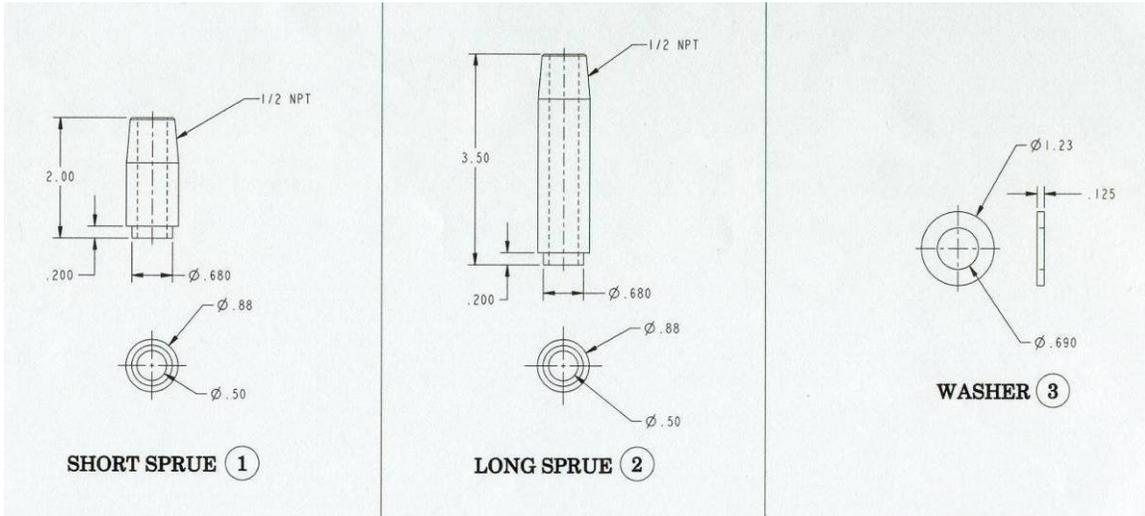

Figure 54- Sprue washers and extensions
6.49.4 Mount the G-11 sprue washers to the chill plates in the areas that were pre-cut to accommodate the epoxy feed sprues. Secure in place using **3M adhesive cement #CA40H**. Pre-apply by brushing, **3M Accelerator “Pronto Surface Activator”** to the chill plate that will mate with the washer. Apply the cement to the sprue washer and place on to the chill plate. Apply a small amount of silicone RTV 108 on the sides of the washers to secure them in place. Repeat for all sprue locations. [Figure 54- Sprue washers and extensions]
- 6.49.15 Install the long and short sprue extension to the sprue washers. This requires cutting the bag where the washers are located. The lead technician shall decide whether a long or short extension will be used. [Figure 54- Sprue washers and extensions]